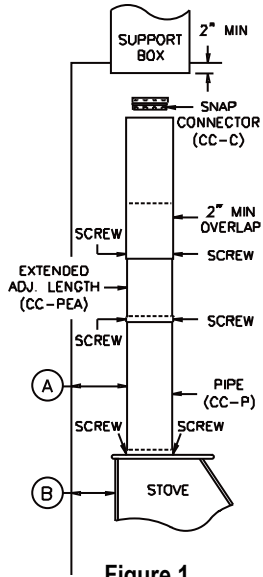
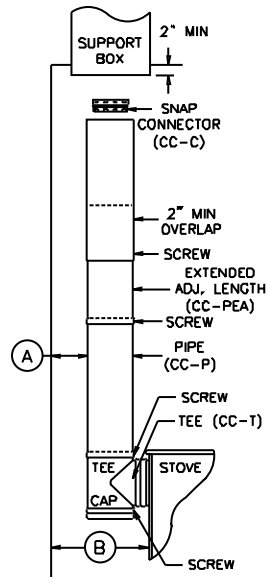
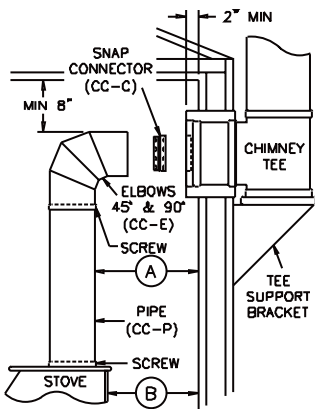

Figure 1
Figure 2
Figure 3
2. Install support box (**Figures 1 & 2**) or wall thimble (**Figures 3 & 4**) according to the installation instructions in your DuraPlus or DuraTech Kit. Note the suggestion regarding wall thimble installation under Step #4 — Through the Wall installations.
4. Vertical Installations — (**Figures 1 & 2**) — Join the pipe, adj. or rigid; insert onto connector, then lower to stove collar (Figure 1). For **Figure 2**, installations, install tee to stove collar by drilling at least 3, 1/8" holes and screw fastening the tee to the collar. Join the pipe lengths, insert into connector (CC-C), then lower to tee (CC-R). Through-The-Wall
Installations — **(Figure 3 & 4)** — use the adj. lengths of pipe (CC-PEA) when doing a through-the-wall installation, it is readily adjustable to the height of the chimney thimble. Push the connector (CC-C) into the thimble, snap elbow or pipe onto connector, join the adjustable piece and extend to the tip of the stove or to another piece of pipe screwing adjustable pipe together after proper length has been determined.